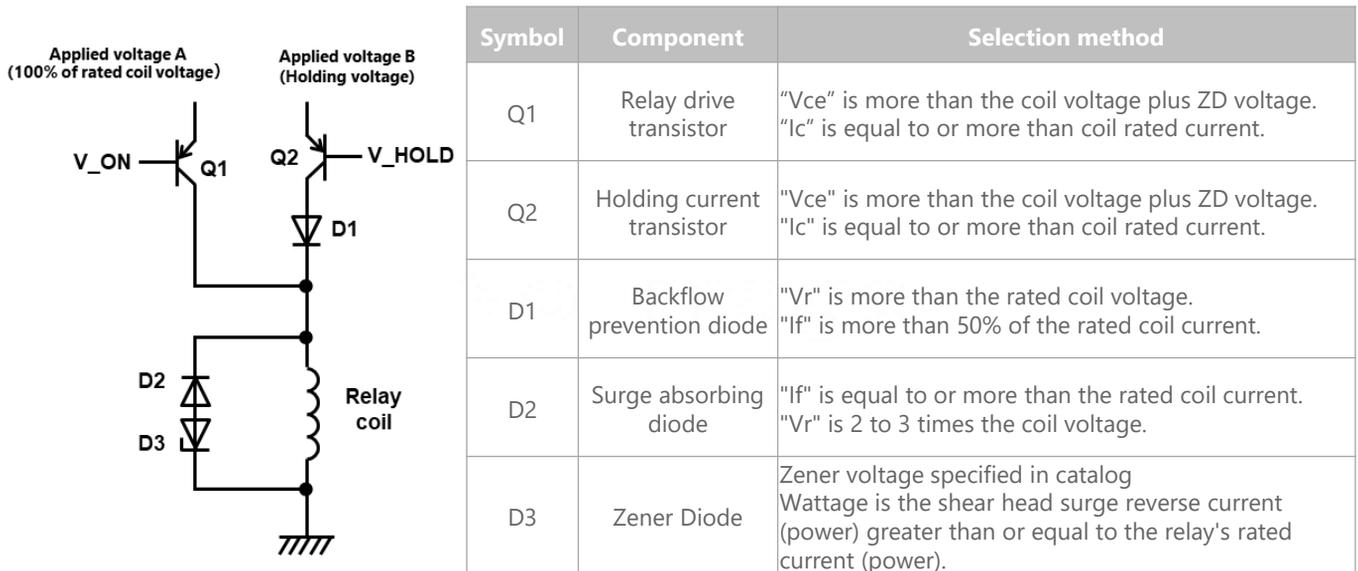

Figure 24: Recommended holding voltage circuit example with switch, and peripheral component selection method
If a low voltage (B) for holding the coil is available in addition to the rated coil voltage (A), it can be switched to the holding voltage by means of a switch. Switching to 50% voltage will reduce the current to 50%, thus greatly reducing the power consumption of the entire circuit to 1/4 of the rated value. (See Figures. 24 and 25).